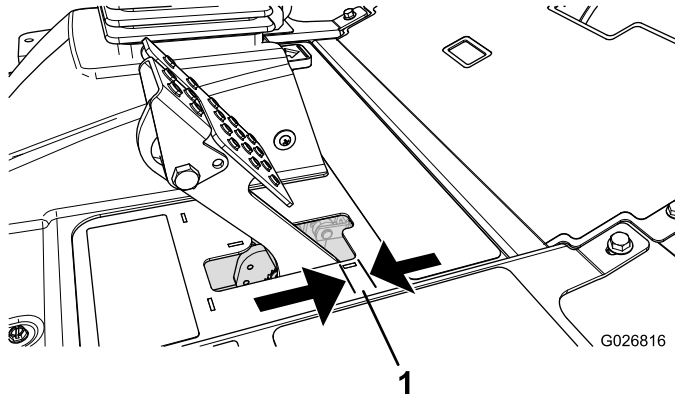

Figure 65
Adjust the brakes when there is more than 2.5 cm (1 inch) of free travel (Figure 65) of the brake pedal, or when more holding force is required. Free travel is the distance the brake pedal moves before you feel braking resistance.
2. Tighten the rear nut to move the cable backward until brake pedals have 6 to 13 mm (1/4 to 1/2 inch) of free travel (Figure 65), before wheel lock-up is achieved.